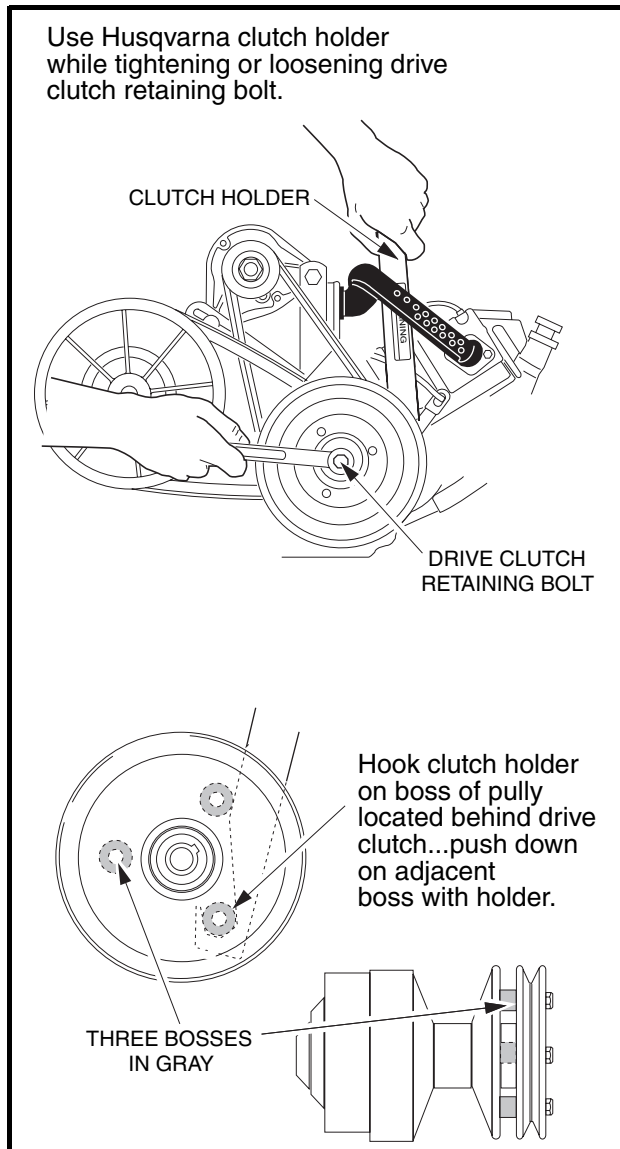
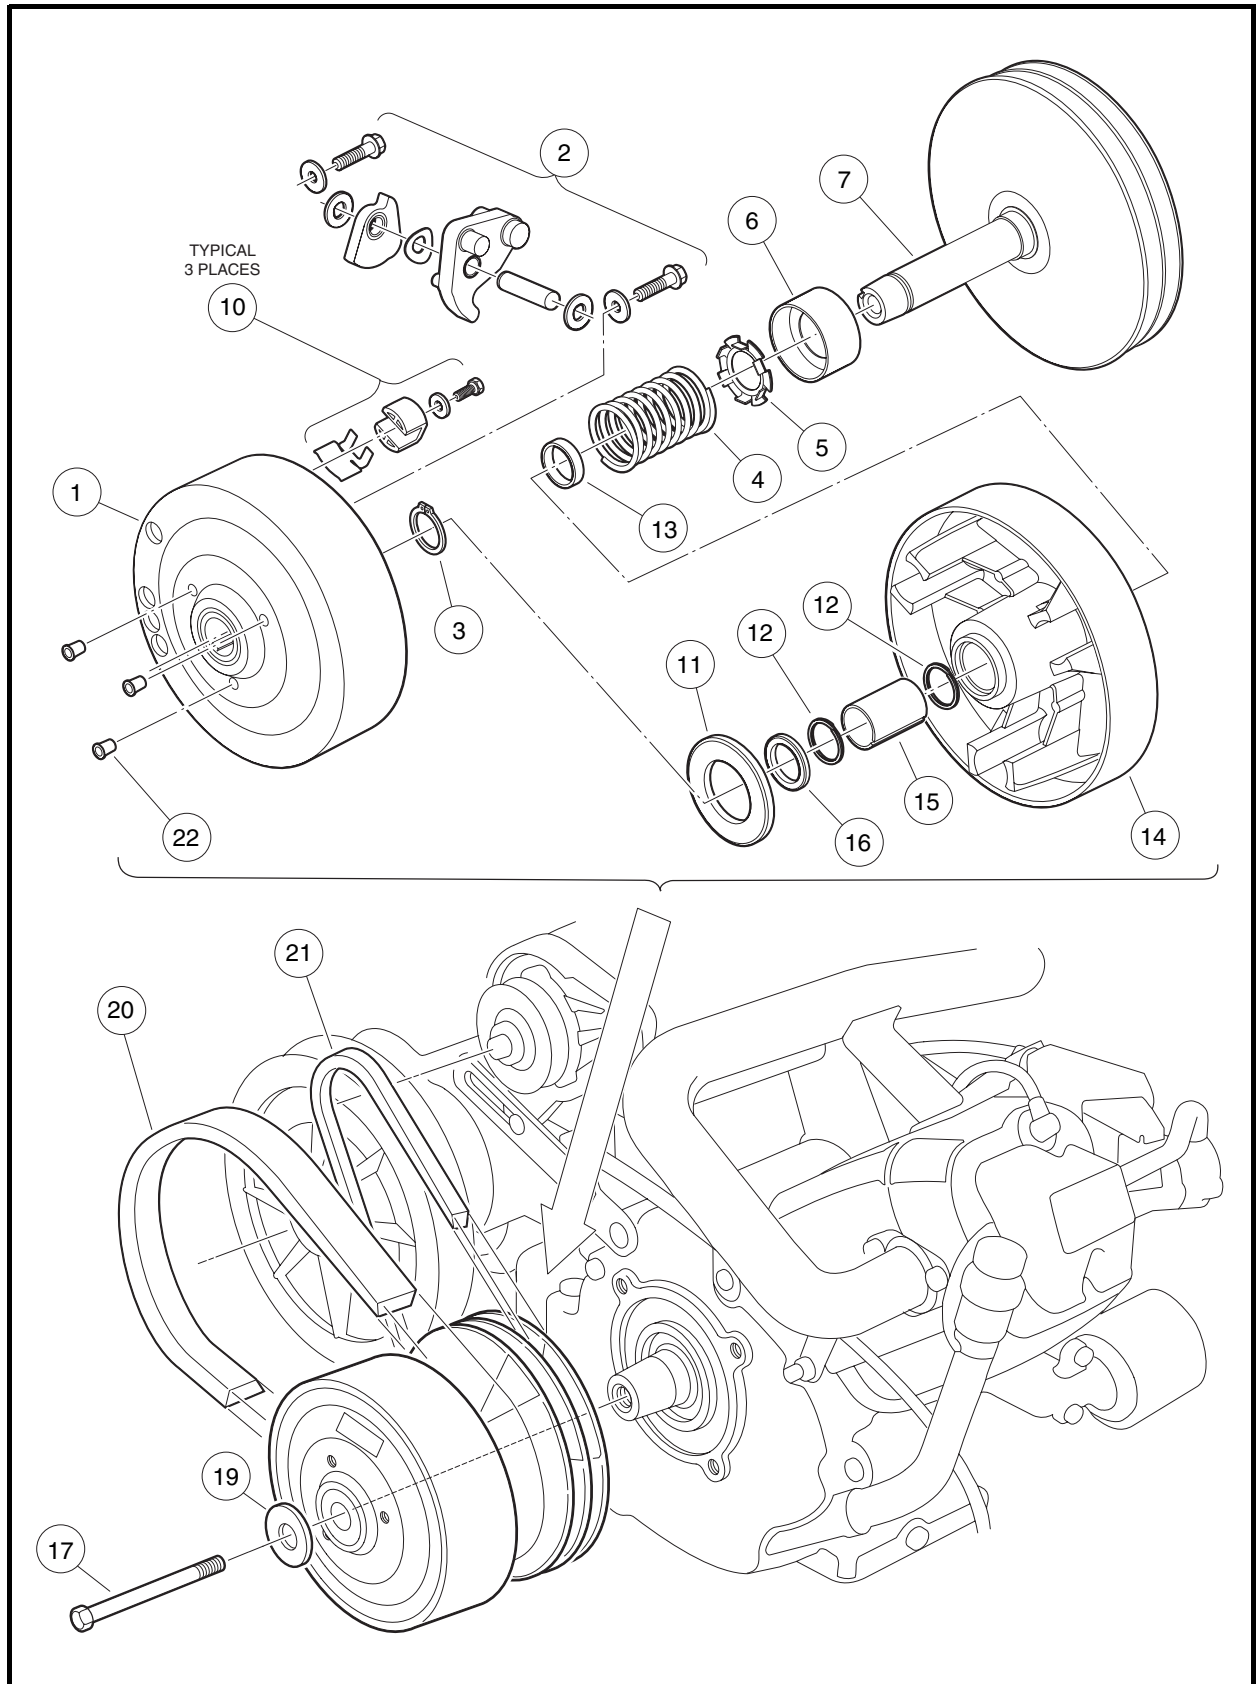
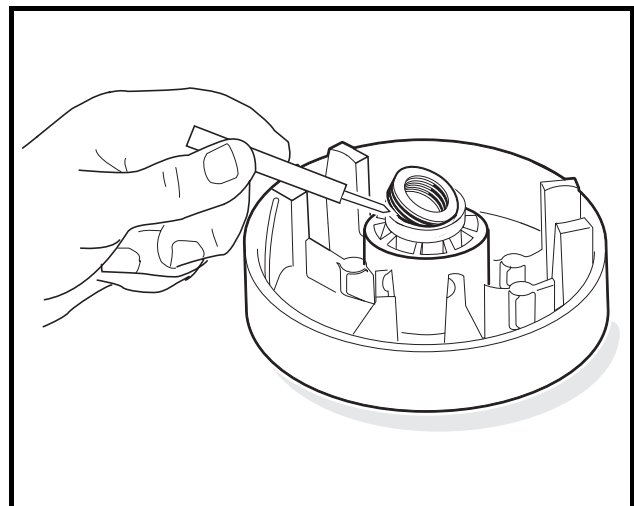

Figure 20-3 Loosen Retaining Bolt
Figure 20-5 Drive Clutch Assembly
Figure 20-13 Spiral Back-up Rings
3. If cleaning the driven clutch does not solve the problem, disassemble and thoroughly clean all parts of the drive clutch. Be sure to clean the plastic drive buttons (10) (**Figure 20-5, Page 20-6**).
4. Remove the drive clutch retaining bolt (17) and mounting washer (19) (**Figure 20-5, Page 20-6**) **See also Figure 20-3, Page 20-4. See following NOTE.**
- **Use only a dry cloth to lightly wipe the shaft of the fixed face assembly (7) (Figure 20-5, Page 20-6). Do not use a brush or steel wool. These will damage the surface of the shaft.**
2. Remove the drive clutch hub (1) (Figure 20-5, Page 20-6):
- 2.1. Remove the three plugs (22) from the clutch puller attachment holes (Figure 20-5, Page 20-6).
3. Remove the thrust washer (11) from the moveable face (14) (Figure 20-5, Page 20-6).
- Remove the retaining ring (3) from the shaft of the fixed face assembly (7) and slide the moveable face (14) off the shaft (**Figure 20-5, Page 20-6**). See following **NOTE**.
NOTE: If the moveable face is removed from the hub of the fixed face, the spiral back-up rings (12) must be replaced with new ones (**Figure 20-5, Page 20-6**).
- Remove the spacer (16), and spring (4) and retainer (5). The spring retainer can be removed from the spring if necessary (**Figure 20-5, Page 20-6**).
- Use a scribe or small pick to remove the spiral backup rings (12) from each end of the bore in the fixed face assembly (**Figure 20-5, Page 20-6**). See also **Figure 20-13, Page 20-9**. Discard the rings.
- Inspect the idler bearing (6) for smooth rotation or seal damage (**Figure 20-5, Page 20-6**). See following **NOTE**.
- Inspect the bore of the moveable face assembly (14) for scarring or wear. The moveable face assembly must be replaced if the bore is worn to a diameter of 0.883 inch (22.4 mm) or larger (**Figure 20-5, Page 20-6**).
- Inspect the steel shaft (7) on the fixed face assembly. There should be no measurable wear anywhere on the shaft. Replace the shaft if it is worn, scratched, or damaged.
- Inspect the thrust washer (11) for wear. If it is worn more than 0.030 inch (0.76 mm), turn it over or replace it with a new one.
- Inspect the primary weights (2) and the hub casting for wear. If the primary weights show signs they are touching the casting, the tips of the weights have worn beyond specification and they must be replaced.
6. Inspect the pins on the primary weights (2). There should be no measurable wear. Replace them if they are worn, scratched, or damaged.
1. Press idler bearing (6) onto the shaft of the fixed face assembly (7). Press on the inner race of the bearing only. Make sure that the cup side of bearing is facing away from the fixed face (**Figure 20-5, Page 20-6**).
2. Using needle nose pliers, install the spring retainer (5) onto the spring (4).
3. Install the spring (4) and retainer (5) into the cup of the idler bearing (6).
4. Install the spacer (13) onto the shaft of the fixed face.
5. Install a new spiral backup ring (12) in each end of the bore of the moveable face assembly (14).
6. Install the moveable face assembly (14) onto the shaft of the fixed face assembly (7).
- 6.2. Install the retaining ring (3) (**Figure 20-5, Page 20-6**).
12. Install the 1/4-20 bolts and washers (2) and tighten them to 10 ft-lb (13 N·m) (**Figure 20-5, Page 20-6**).
16. Install the thrust washer (11) onto the moveable face assembly (**Figure 20-5, Page 20-6**).
17. Install the hub assembly (8) on the moveable face assembly and align the match marks made before disassembling the clutch. Press the hub assembly on by hand.
18. Replace the three plastic plugs (22) into the hole protectors (**Figure 20-5, Page 20-6**).
1. Place the drive clutch assembly on the crankshaft taper. Position the mounting washer (19) on the bolt (17) and start the bolt into the crankshaft (**Figure 20-5, Page 20-6**). See following **NOTE**.
2. Tighten the drive clutch retaining bolt (17) to 25 ft-lb (33.9 N·m) (**Figure 20-5, Page 20-6**).